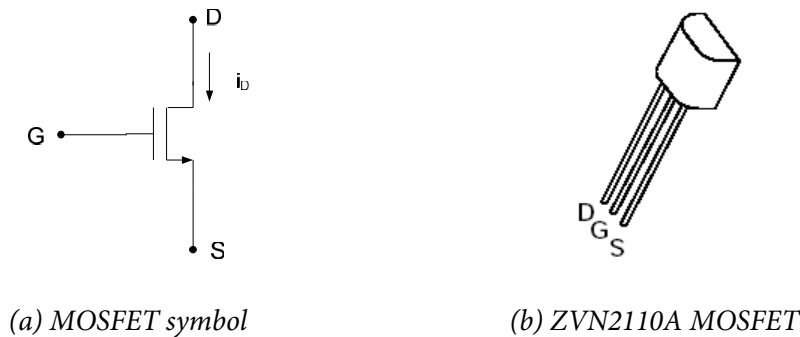

Figure 1. MOSFET symbol and typical physical appearance.
The primary circuit element used in this assignment is a Metal Oxide Semiconductor Field Effect Transistor (MOSFET). There are two basic types of MOSFETs: *n-channel* and *p-channel*; the discussion presented here is for n-channel MOSFETs, though similar concepts apply to p-channel MOSFETs. A MOSFET is a three-terminal device; the symbol commonly used to represent a MOSFET in circuit diagrams is shown in Figure 1(a). The three terminals of the device are called the source (S), the drain (D) and the gate (G). Our circuit will employ a ZVN2210A MOSFET; the physical appearance of this MOSFET is shown in Figure 1(b), along with the relative locations of the drain, gate and source for that model MOSFET.
An extremely simplified discussion of a MOSFET's operation is as follows: A “channel” is opened in the MOSFET by application of a voltage at the gate of the MOSFET. This channel allows current to flow from the drain to the source of the MOSFET (i_D in Figure 1(a)). Thus, if a power supply is connected to the drain of the MOSFET, the MOSFET can be used to control the power supply's current: increasing the gate voltage increases the current out of the power supply. A rough analogy to this process is a valve placed at the base of a water tank – opening the valve allows water to flow out of the tank. Likewise, increasing the gate voltage allows current to “flow” out of the power supply. A MOSFET, therefore, in conjunction with a power supply, can act as a voltage controlled current source in which the drain current is controlled by the gate voltage.